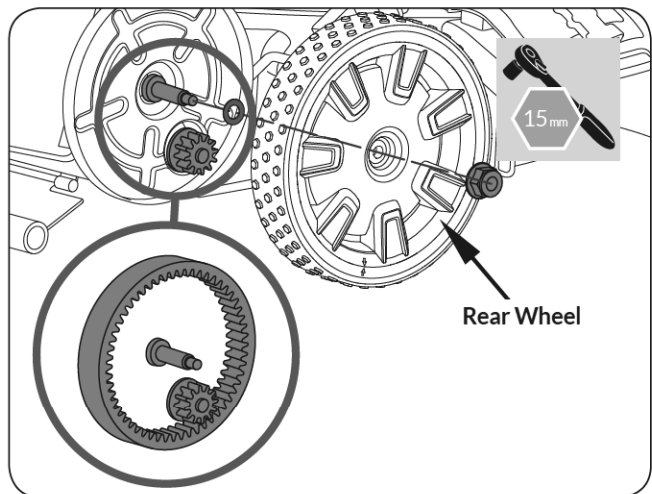

Figure 29
3. Assemble the new wheel with wheel nut and washer. (See **Figure 29**)